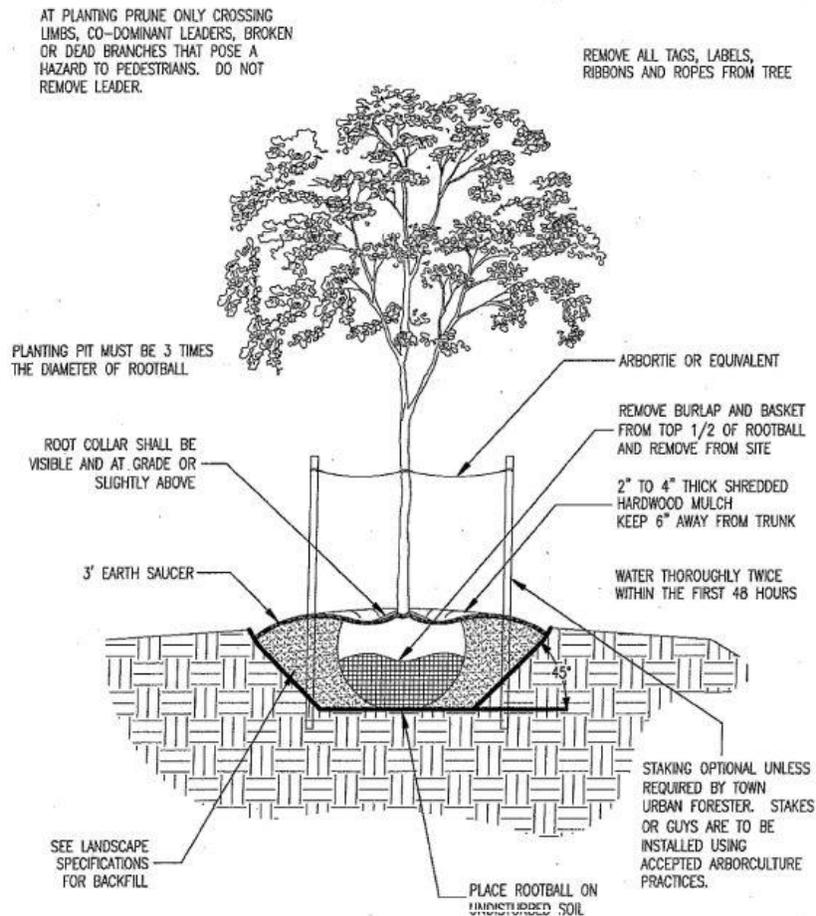

Figure 1. Proper plant installation procedure.
- \_\_\_\_\_ Mulch bed is 2-4 inches deep. Near, but not touching, the trunk (see Figures 1 & 2) per ANSI A300.
- \_\_\_\_\_ Plantings are established at the correct depth and width—root flare is exposed (Figures 1 & 2) per ANSI A300.
- \_\_\_\_\_ Burlap and at least 1/2 of the wire basket are removed (if used) per ANSI A300.6 (see Figure 1).